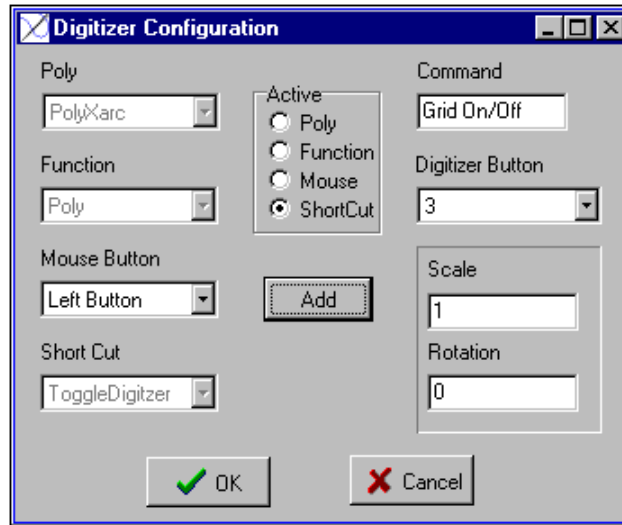

Figure 23: the Configure Digitizer window
1. Select "Digitizer" from the **Settings** menu, then select "Configure" from the submenu. The "Digitizer Configuration" dialog box opens (see Figure 23, below).
- Select “Digitizer” from the **Settings** menu, then select “Configure” from the submenu. The “Digitizer Configuration” dialog box opens (see Figure 23, above).